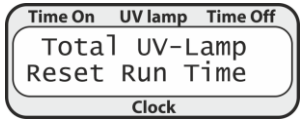

Figure 14. Reset run time
**Caution!** Holding the ▼ key pressed for more than 5 s from the default screen re-sets the UV lamp runtime timer (fig. 14). This action is reserved for service engineers and maintenance.